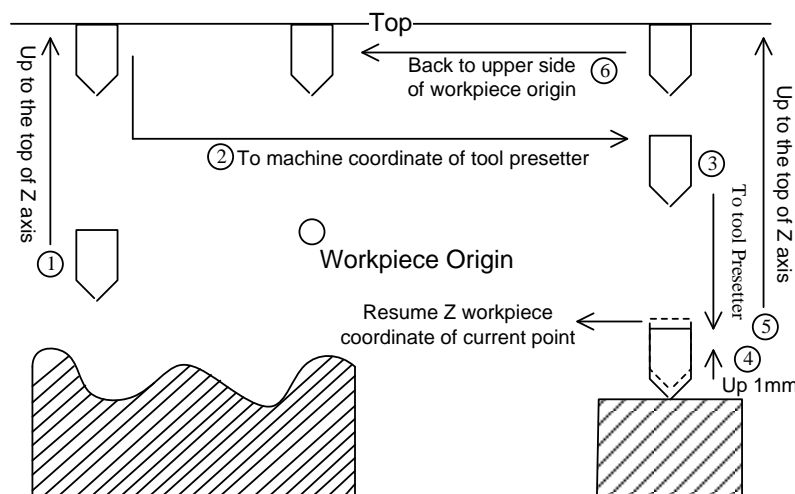

Fig. 3-21 Presetting after tool change
- After tool change or tool break, press F4 [Preset], and then press F5 [After Tool Change] in the new pop-up manipulation button bar to restore the Z workpiece coordinate value of current point, as shown in Fig. 3-21. The system ends this process automatically.